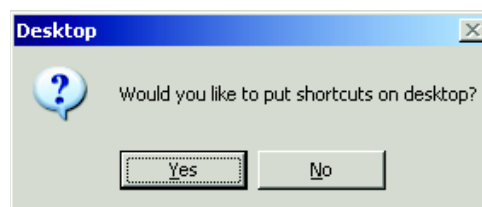

Figure 1-5. Desktop Shortcut Screen
6. Desktop Shortcut Screen (Figure 1-5). Select **<Yes>** to add a shortcut to FCS 6000 on the Windows® desktop.